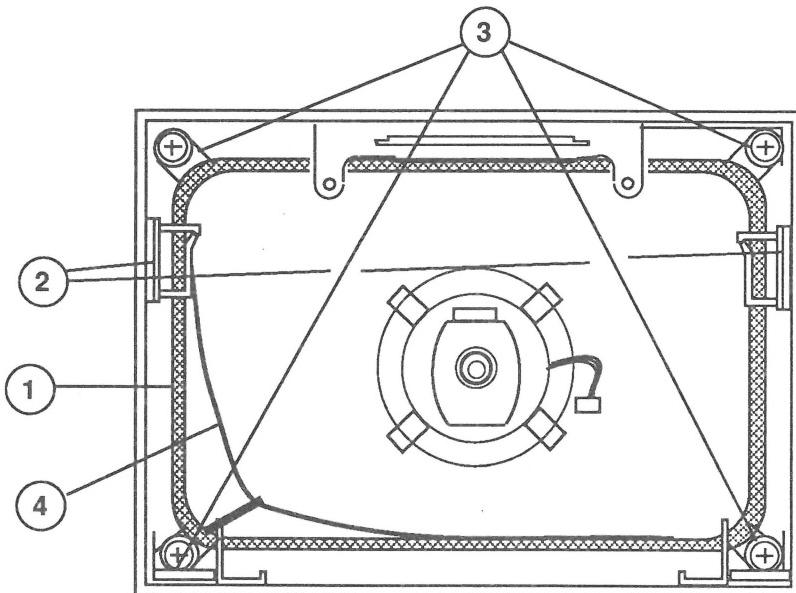

FIGURE 13
5. Locate the degaussing coil (Figure 13, #1). It is braced to the CRT by two plastic holding tabs (Figure 13, #2). Pull the tab strips out of the tab cutouts and bend the strips out to free the degaussing coil. Carefully lift out the coil.
6. Remove the four CRT mounting screws (Figure 13, #3) with the washers.
9. Remove the silver mesh cable (Figure 13, #4) with the spring attached. Save this cable to use on the replacement CRT.